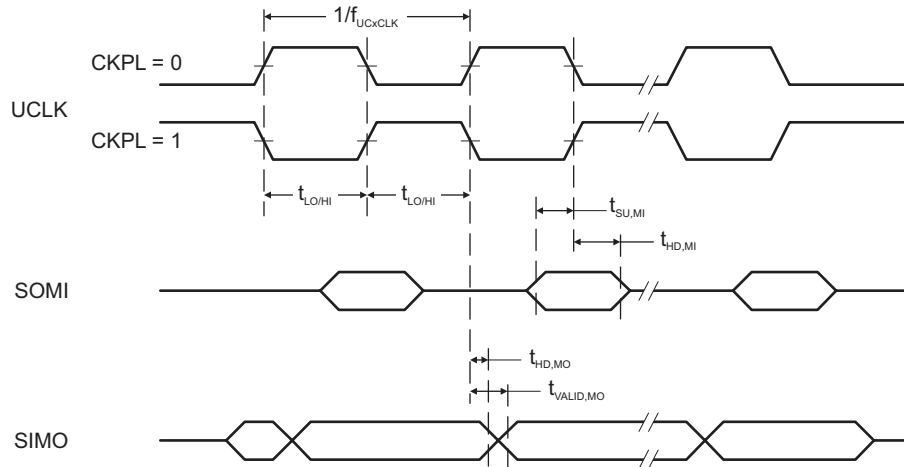
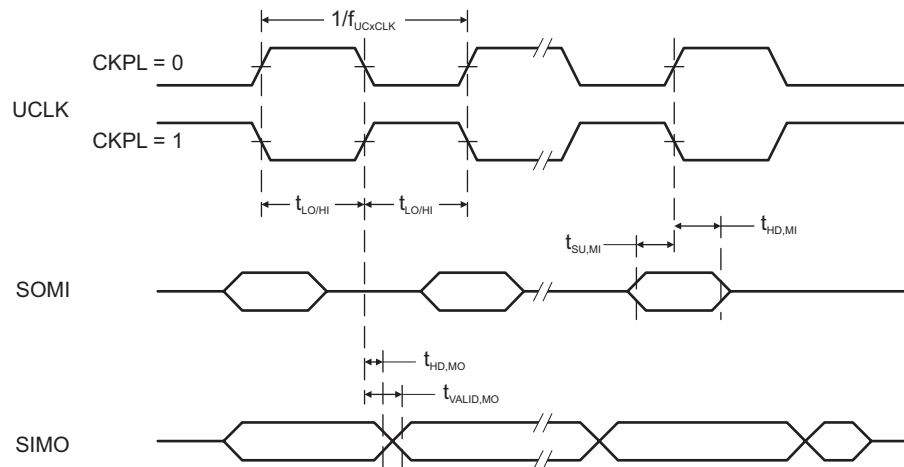

Figure 5-12. SPI Master Mode, CKPH = 0
Figure 5-13. SPI Master Mode, CKPH = 1
(see Figure 5-12 and Figure 5-13)
- (2) Specifies the time to drive the next valid data to the SIMO output after the output changing UCLK clock edge. Refer to the timing diagrams in Figure 5-12 and Figure 5-13.
- (3) Specifies how long data on the SIMO output is valid after the output changing UCLK clock edge. Negative values indicate that the data on the SIMO output can become invalid before the output changing clock edge observed on UCLK. Refer to the timing diagrams in Figure 5-12 and Figure 5-13.
- (2) Specifies the time to drive the next valid data to the SOMI output after the output changing UCLK clock edge. Refer to the timing diagrams in Figure 5-12 and Figure 5-13.
- (3) Specifies how long data on the SOMI output is valid after the output changing UCLK clock edge. Refer to the timing diagrams in Figure 5-12 and Figure 5-13.